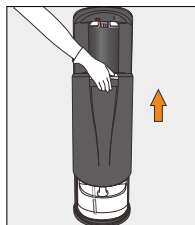

Figure 12
1. Open Dispenser door (Figure 12). (Slide door upwards to allow access to bottle area)